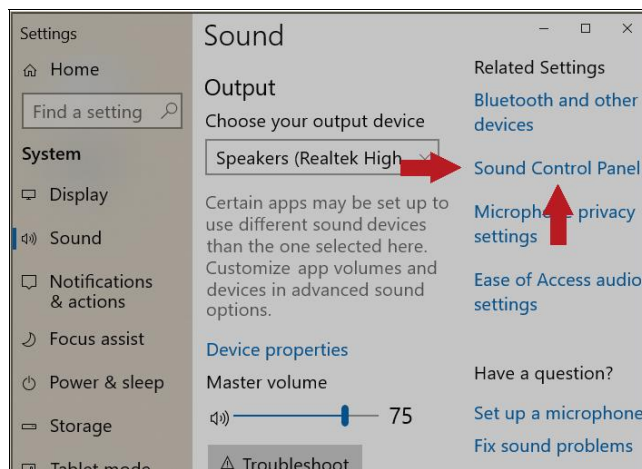

Figure 11 - Settings Window
- In the "Settings" window that opens, click "Sound Control Panel" on the upper right side of the screen as shown in Figure 11.